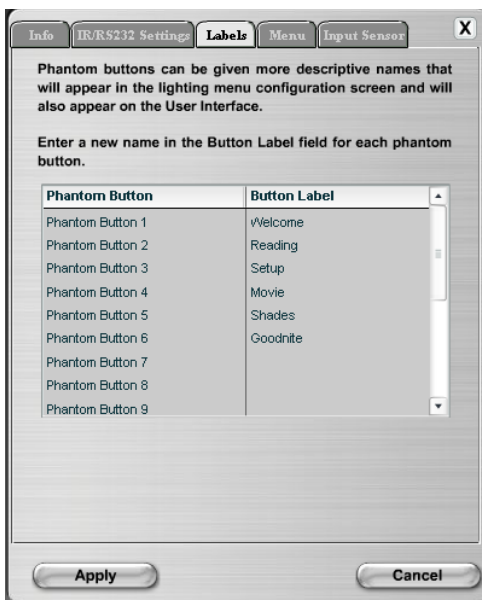

Figure 3 Button Labels entered
2. Click on the fields under **Button Label** to enter descriptive names for each of the Phantom buttons (see Figure 3). These descriptive names will appear on the TouchLinX™ user interface (or other browser-based user interface) used to control the *DigiLinX* system.